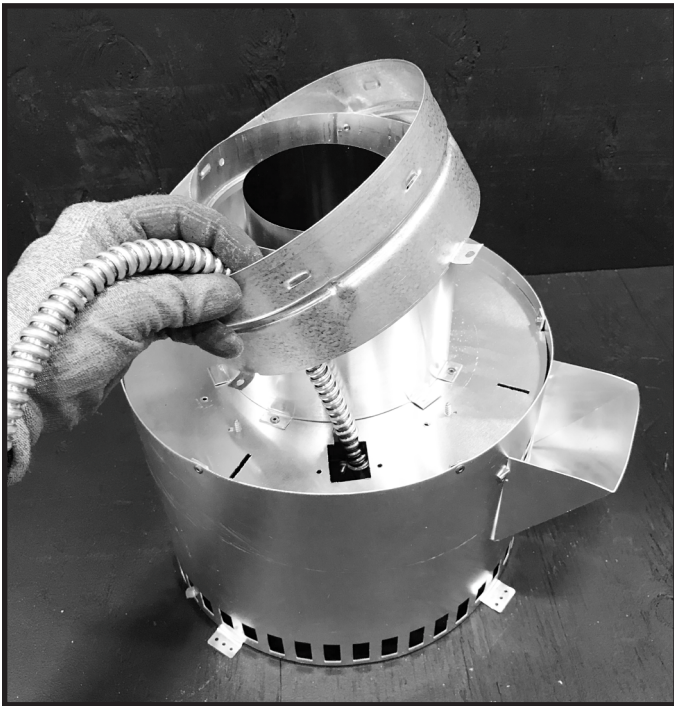

Figure 3.10 Route PVI Wiring Harness
5. Route the PVI wiring harness through the PVV-SLEEVE starting collar and into the cap as shown in Figure 3.10. Reattach the starting collar to the cap as shown in Figure 3.11.